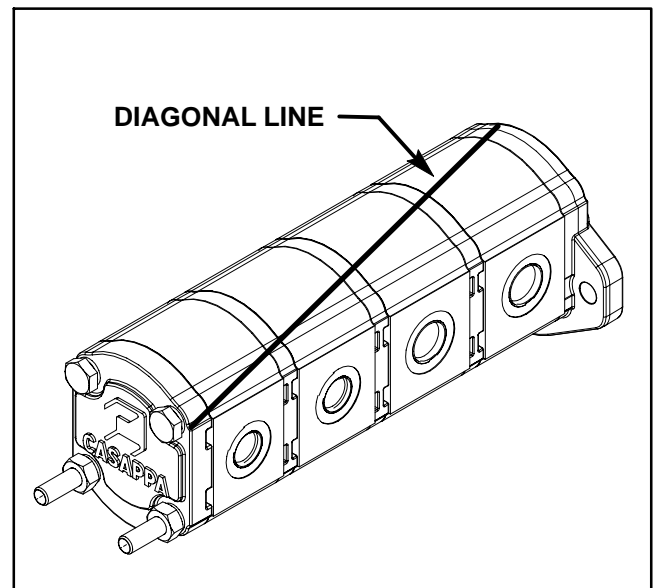

Figure 73
2. Use a marker to make a **diagonal** line across the gear pump for assembly purposes (Fig. 73).